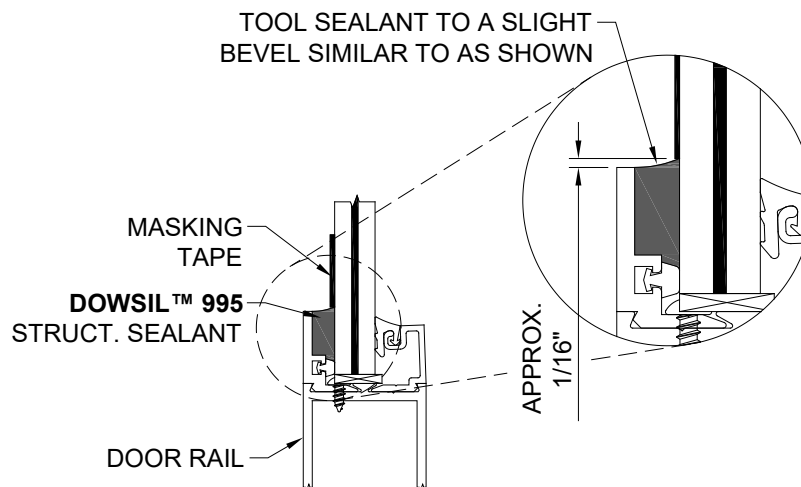

Figure 42: Wet Glazing Exterior of Door
- 13.4.2 Clean glass with isopropyl alcohol and mask off glass with 1" wide (minimum) low-adhesion masking tape. For masking tape application location, reference Figure 42.
- 13.4.3 Fill the cavity between the glass and the **D-152** Glass Stop with **DOWSIL™ 995** Structural Silicone Sealant, as shown in Figure 42 enlarged detail. Care should be taken not to leave any voids and to eliminate air bubbles in the sealant. Immediately tool, creating a finished joint with a slight beveled/curved joint surface.